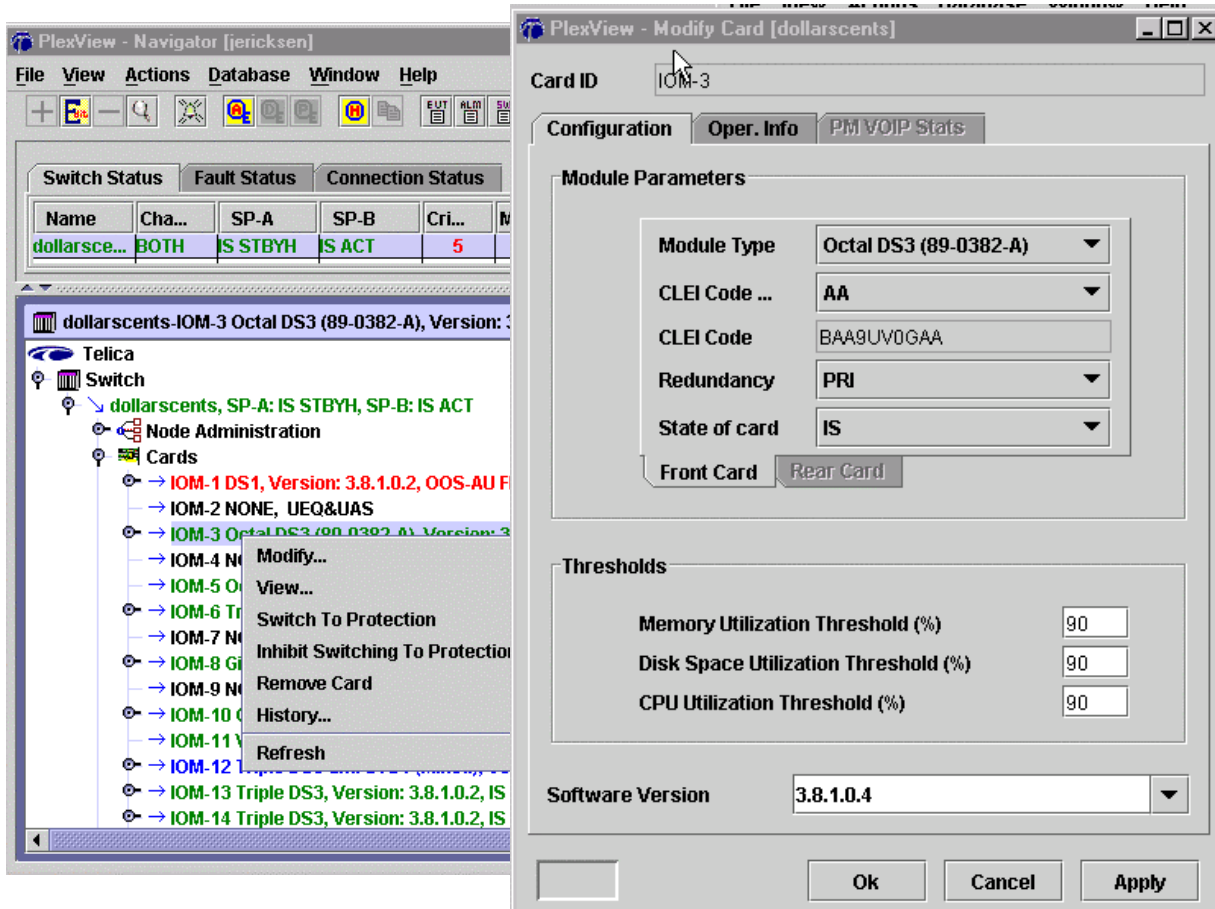

Figure 5. Modifying Module Configuration
24. Double-click the switch to select it for the main panel and then double-click *Cards*. Right-click the desired IOM and then select *Modify*. Change the CLEI and then select *Ok* or *Apply*. Refer to Figure 5.
If using **EMS**, then change CLEI. Refer to Step 24 and Figure 5.